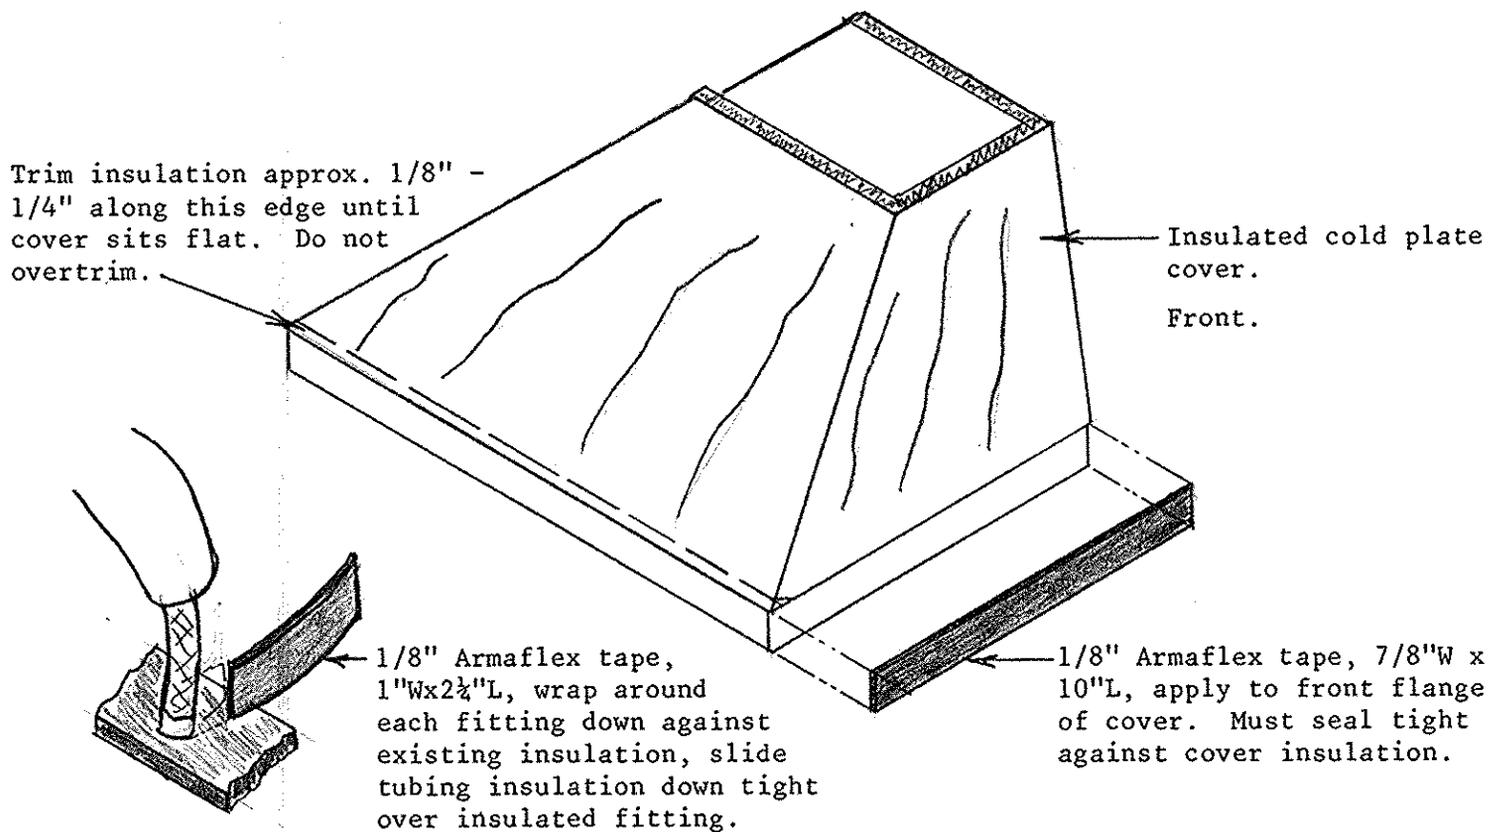

Fig. 2 - Insulation modifications to seal problem areas.
3. Carefully trim the insulation along the left side of the cover, as indicated in Fig. 2, until the cover sits flat on the cold plate. Do not cut away any more than is necessary, or you will expose other areas.
4. Apply a new strip of insulation across the front of the cover as shown in Fig. 2. Be sure to seal tightly to the existing insulation.
5. Apply a strip of insulation to each hose fitting as shown in Fig. 2, being sure to seal tightly against the top of the cold plate. Slide the tubing insulation down tightly over the insulated fitting.